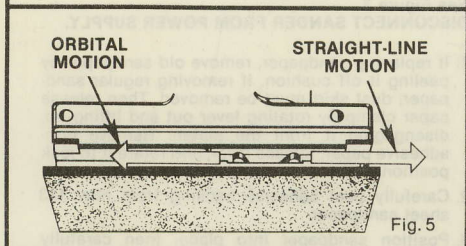

Fig. 5
2. For straight-line motion, slide lever forward as shown in Figure 5.
3. For orbital motion, slide lever backwards as shown in Figure 5.